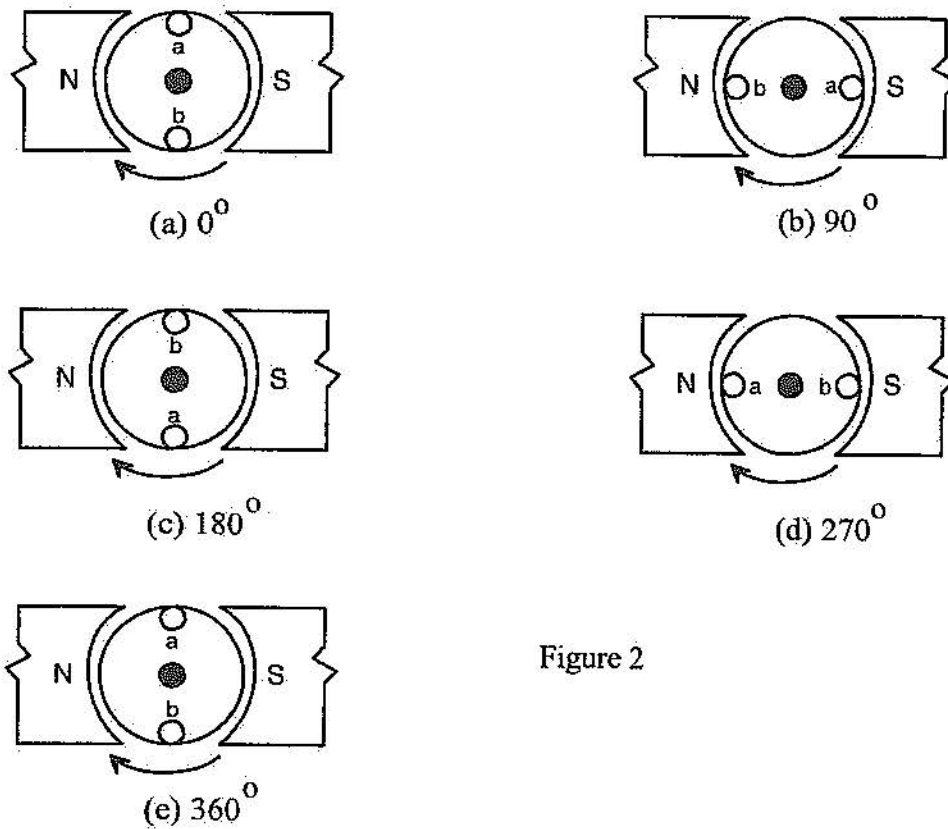

Figure 2
6. For the diagrams of figure 2(a) to 2(e), determine the direction of current flow through the conductors "a" and "b", and show the currents on the diagrams.